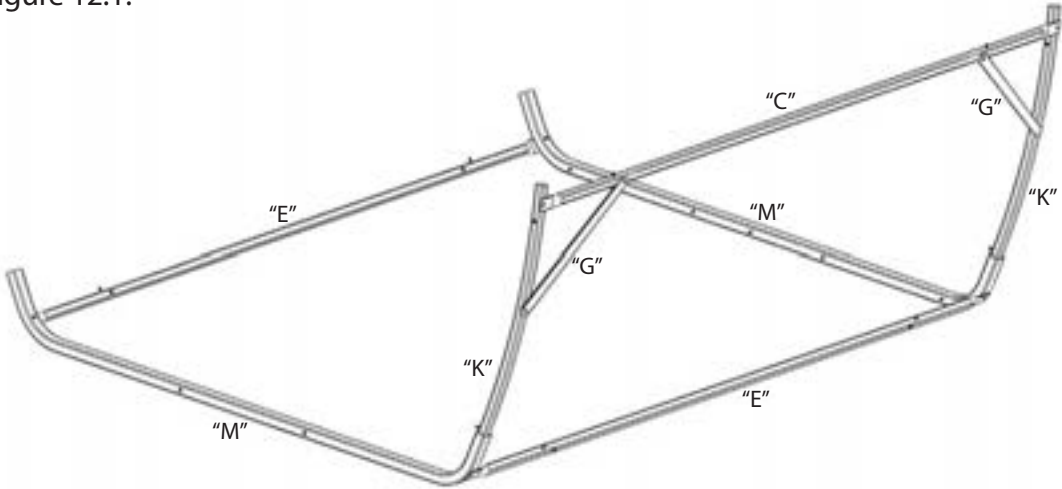

Figure 12.1
STEP 4: Install Section 1 that was created in Step 3, into the base that was created in Step 2, resulting in the frame illustrated in Figure 12.1.